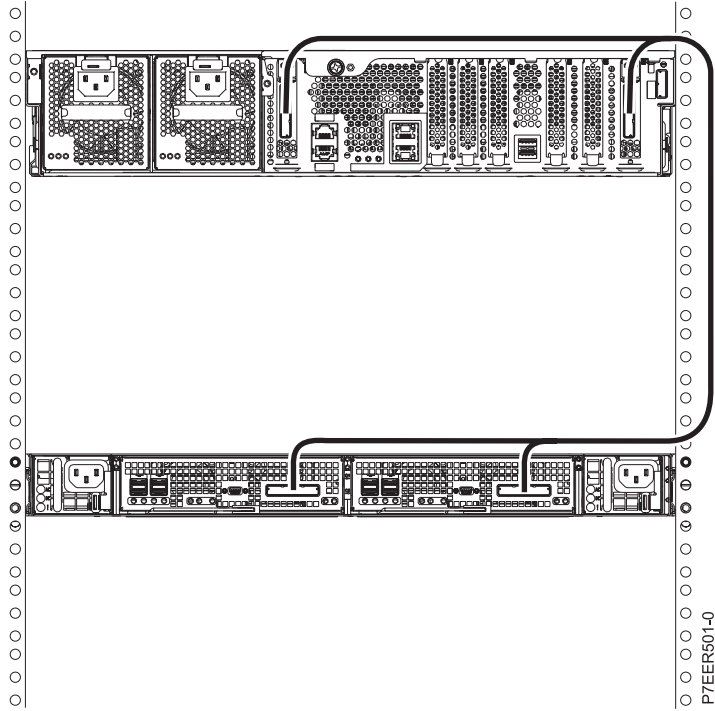

Figure 23. One EDR1 PCIe storage enclosure connected to an 8246-L2T system by using two FC EJ0H PCIe2 GX++ adapters and two PCIe cables
Figure 23 on page 21 shows an example of connecting an EDR1 PCIe storage enclosure to an 8246-L2T system by using two feature code (FC) EJ0H PCIe2 GX++ adapters and two PCIe cables.